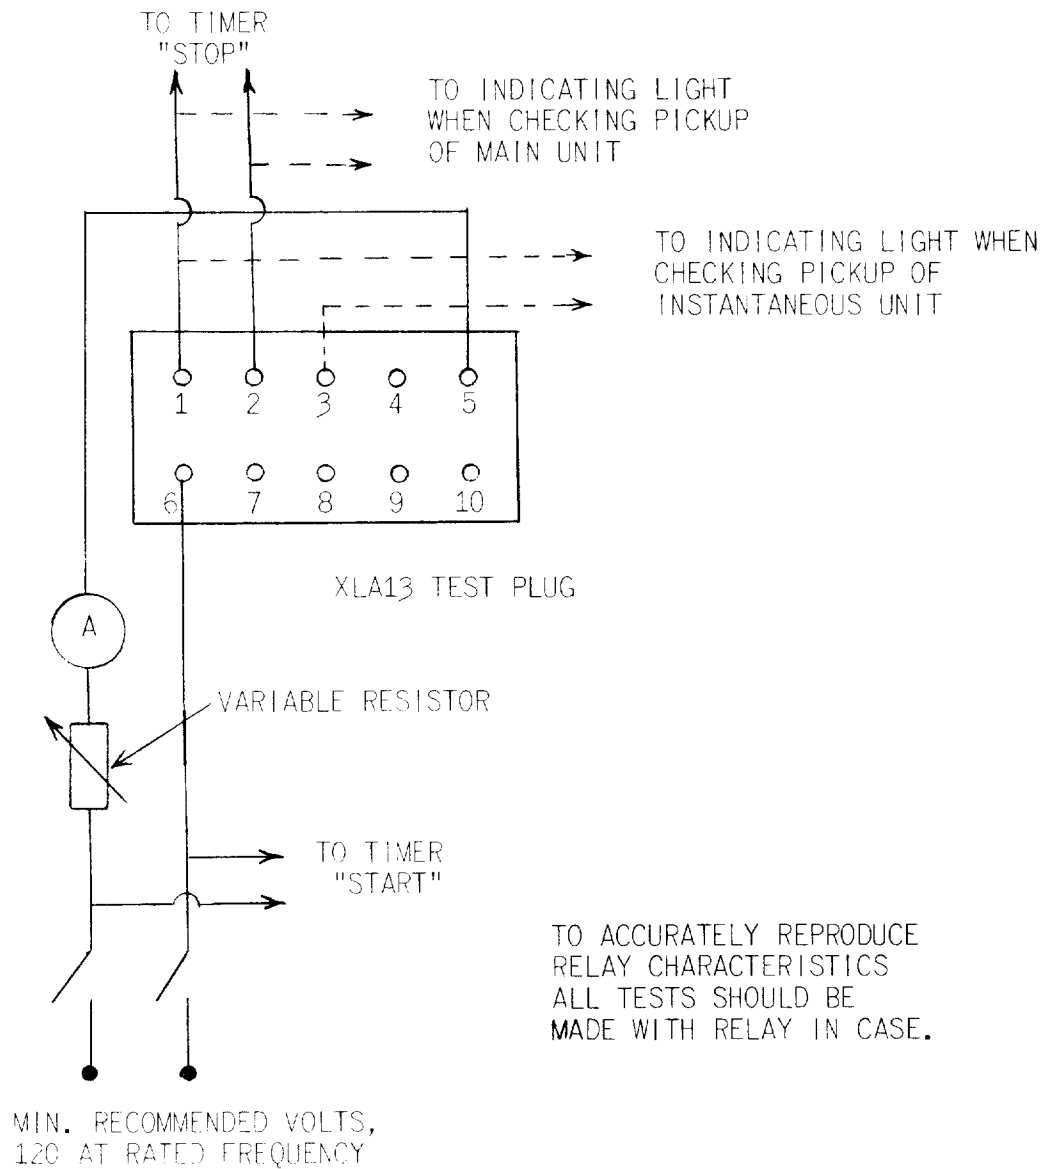

Figure 13 (K-6154399-7) Test connections for Testing Pickup and Time Curve of IAC Relays
2. Connect the operating-coil terminals to a source of the proper frequency and good waveform having a voltage of 120 or more, with pure resistance load boxes for setting the current. See test circuit, Figure 13.